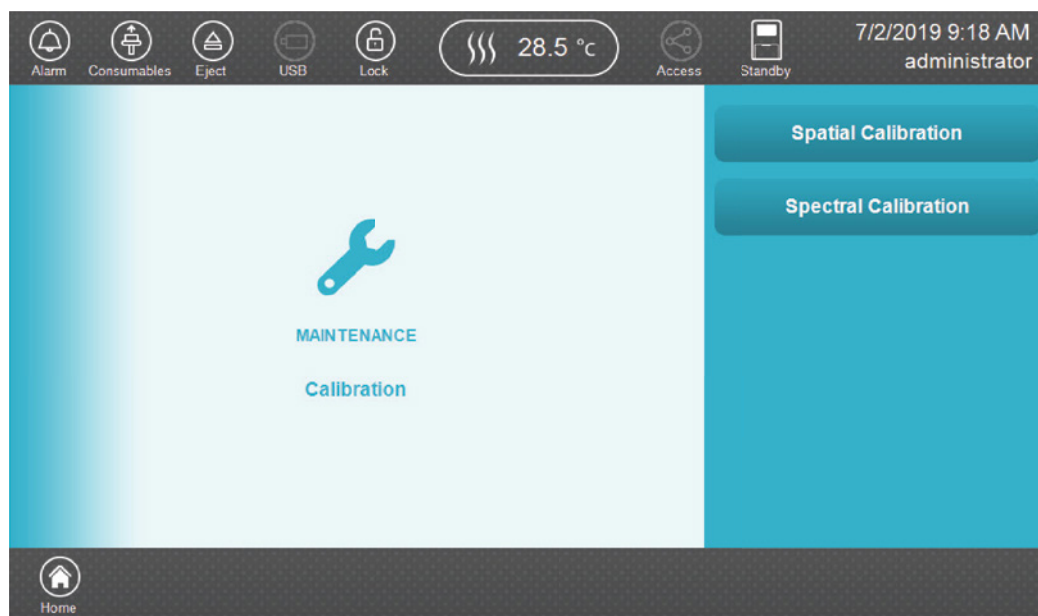

Figure 5. 'Maintenance Calibration' screen.
3. Select **Calibration** on the maintenance portion of the 'Main Menu' screen (Figure 3) then select **Spectral Calibration** on the 'Maintenance Calibration' screen (Figure 5).